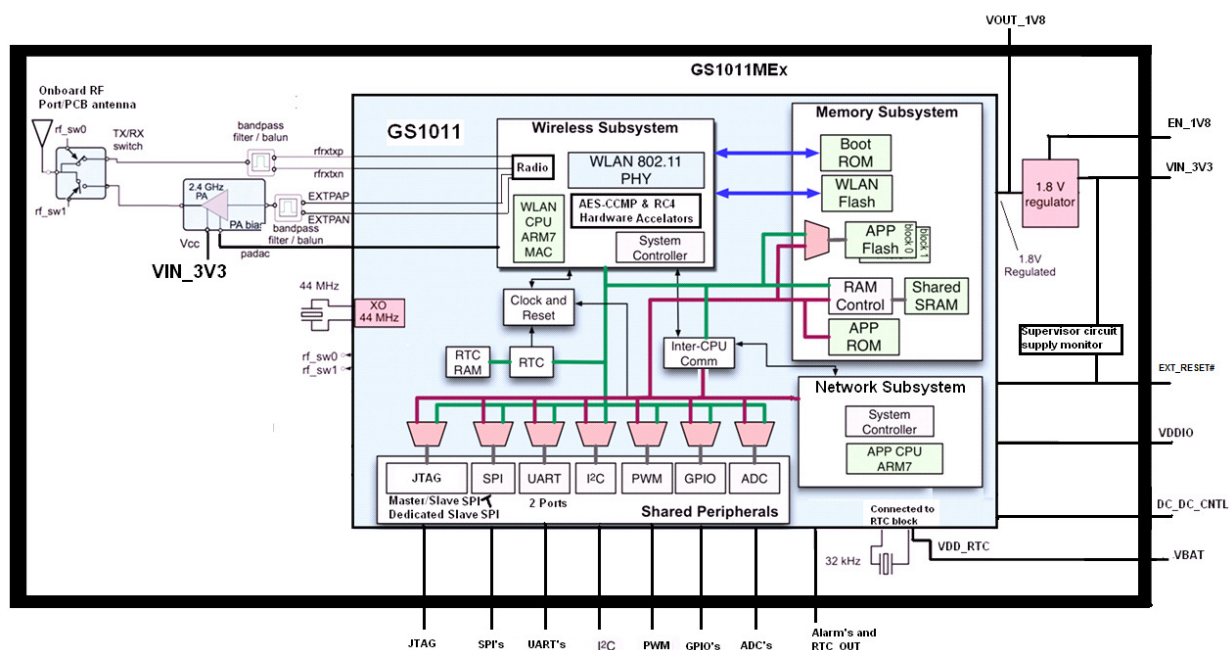

Figure 2-2: GS1011MEx Block Diagram
- The extended range module option has a capability of +17dBm output power at the antenna (see Figure 2-2).